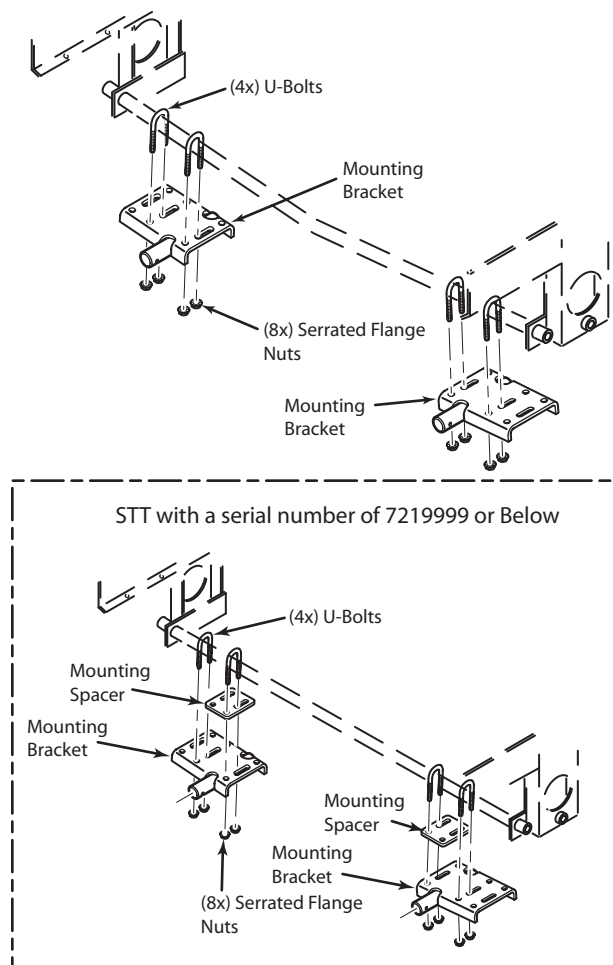

FIGURE 3-1
- Attach the mounting brackets to the cross bar between the wheel motor brackets using (4) u-bolts and (8) serrated flange nuts. See Figure 3-1. Do not tighten the hardware.
If the Tiger Striper is installed on an STT with a serial number below 7219999, part number 423966 mounting spacer will need to be installed between the mounting bracket and cross bar. See Figure 3-1.
- The edge of the mounting bracket should be under the wheel motor mounting plate for proper installation. See Figure 3-1.